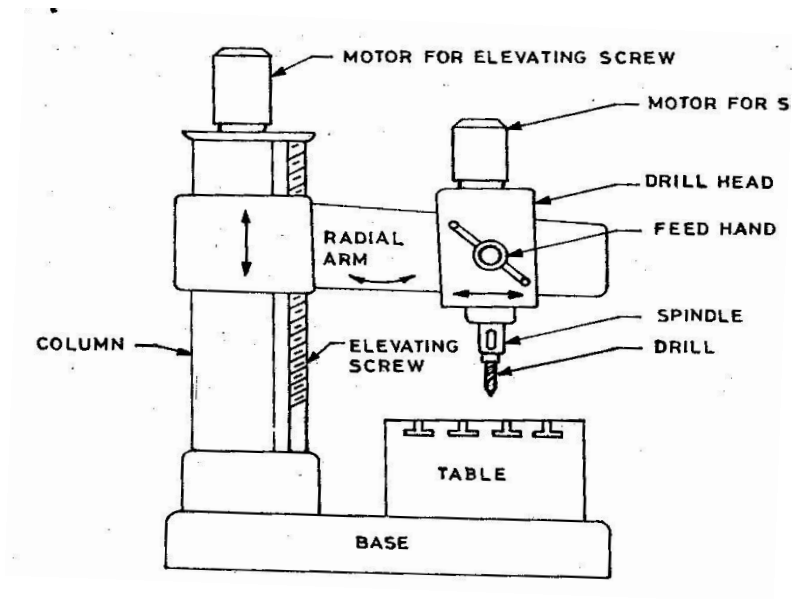

Fig. 3 Radial Drilling Machine
- The column and radial drilling machine supports the radial arm, drill head and motor. Fig.3 shows the line sketch of radial drilling machine.